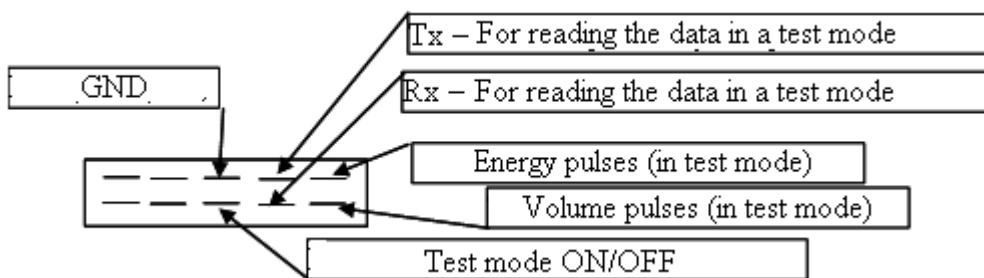

Fig. 6.3. Destination of contacts of connector J
The 2-line,10-pole connector is on the calculator plate between temperature sensors and pulse input /output terminals (see fig.A1, Annex A). Destination of contacts of connector J is presented in fig. 6.3.
The pulse outputs are active when the corresponding contacts of connector (J) are open (see Fig. 6.3)